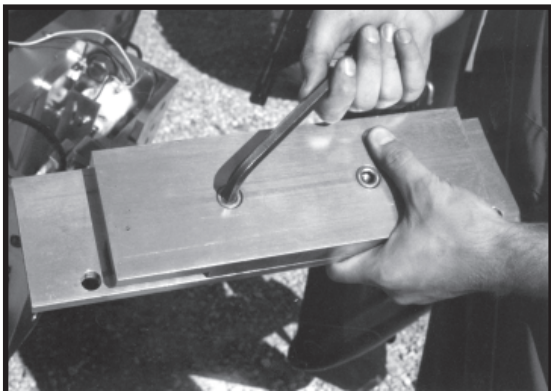

FIG. 10
Step 7A: Loosen the two hex head bolts with a 3/8" hex key wrench enough to allow the top adapter piece to fit over the motor side of the PT-130. Place the top adapter piece on top of the motor side of the PT-130. (FIG. 10 and 11).